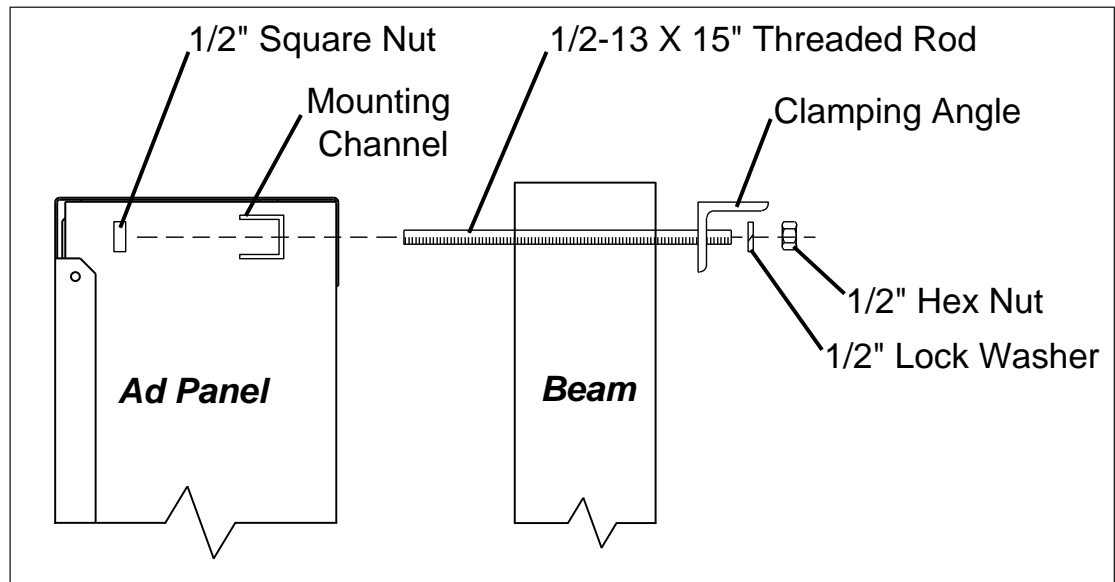

Figure 12: Ad Panel Clamping Angle Mounting, Side View
Mounting hardware includes mounting channels; rear clamping angles; 1/2-13 x 15" threaded rods; and 1/2" square nuts, hex nuts, and lock washers. Refer to **Figure 12** and **DWG-52187** in **Appendix B**.
3. Position a mounting channel inside the ad panel cabinet along the rear flange as shown in **Figure 12**.